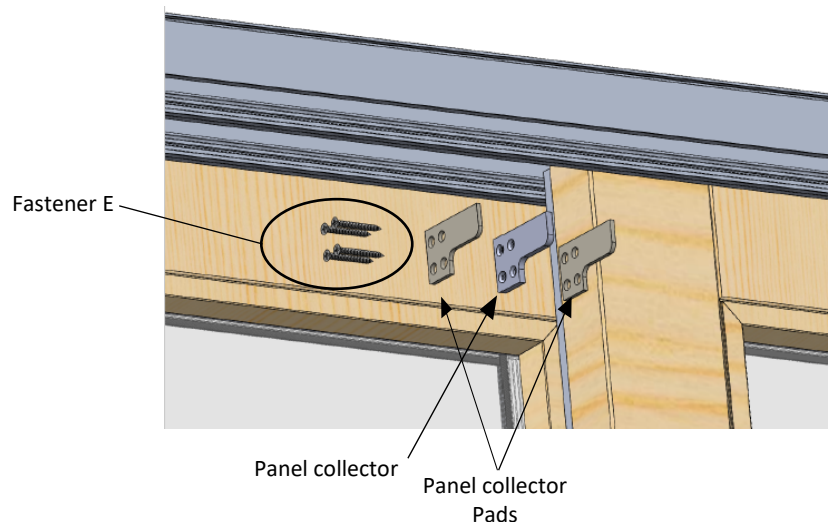

Figure 22
- 6.4 Apply the self-adhesive panel collector pads to both sides of the panel collector(s). Using #7 x 1-1/2" flat head fasteners (E) attach panel collector(s) to interior stile of panels in pre-drilled holes (see Figure 22). Top of panel collectors should be placed 1-3/4" from top of panel.